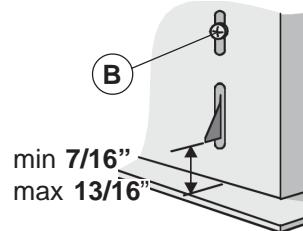

FIG. 4
3. Adjust the position of the clasping side spring by means of the proper "B" screw according to the thickness of the bored panel to which it is going to be anchored (Fig. 4).